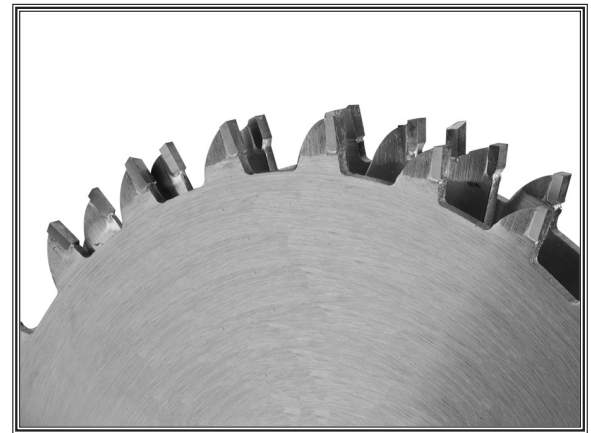

Figure 21. Stacked dado blade.
- **Stacked Dado Blade:** These dedicated dado cutting blade sets consist of up to 8 individual blades. Multiple cutters are "stacked" between two outside blades. The width of the dado is determined by the combination of cutters that are "stacked" together. The dado is cut in a single pass leaving a smooth and square channel in the face of the workpiece. Stacked dado blades are the most expensive option, but are worth considering if your projects require a lot of visible dado cuts. A stacked dado blade is shown in **Figure 21**.